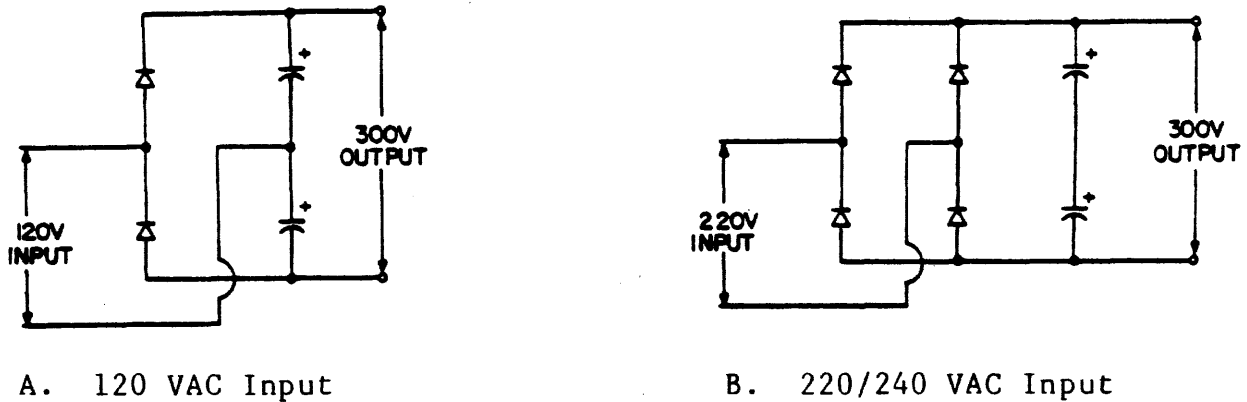

Figure 4-8. HIGH VOLTAGE GENERATION
4.3.3.4 Switching Converter (Refer to Figures 4-8 and 4-9) - The high voltage supply for the switching converter consists of two electrolytic capacitors charged through a diode bridge network. The output capacitors are configured such that during 120V operation, the circuit functions as a voltage doubler, with the output capacitors connected in series. During 220V operation, the output capacitors are connected in parallel, and the input line is full-wave rectified. The resulting effect is that an output voltage of approximately 300V is supplied to the switching converter, regardless of whether 120V or 220 VAC is supplied. A simplified diagram of output capacitors and bridge configuration is shown in the figures below.